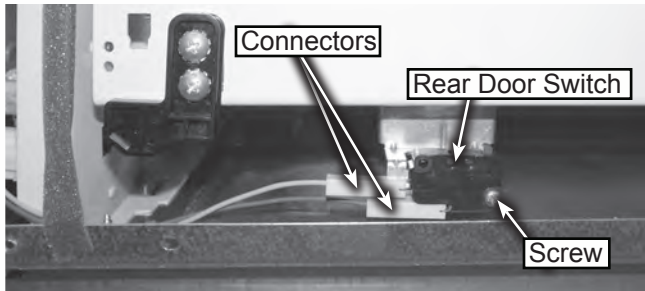

Figure 5
9. Remove the connectors and one screw to replace, see figure 5.